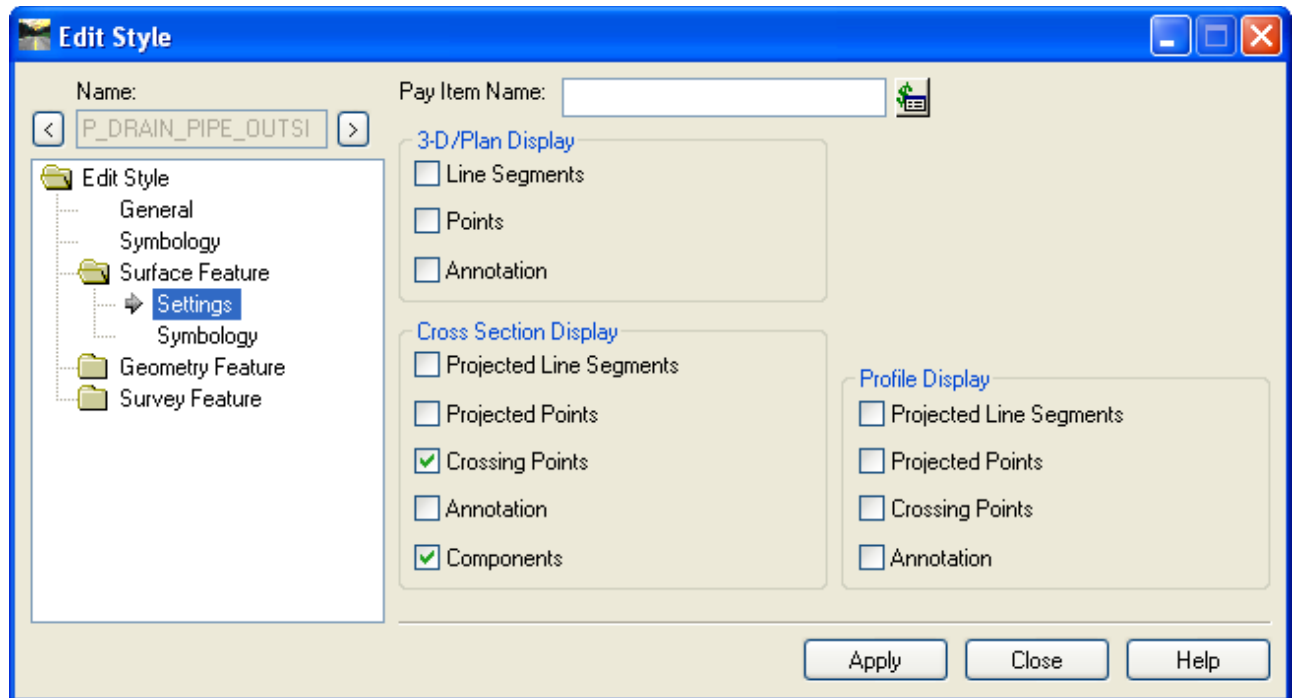

Figure 14-36 Edit Style Dialog Box
- C. Select Surface Feature > Settings and toggle On the Items shown in Figure 14-36 **Edit Style Dialog Box**